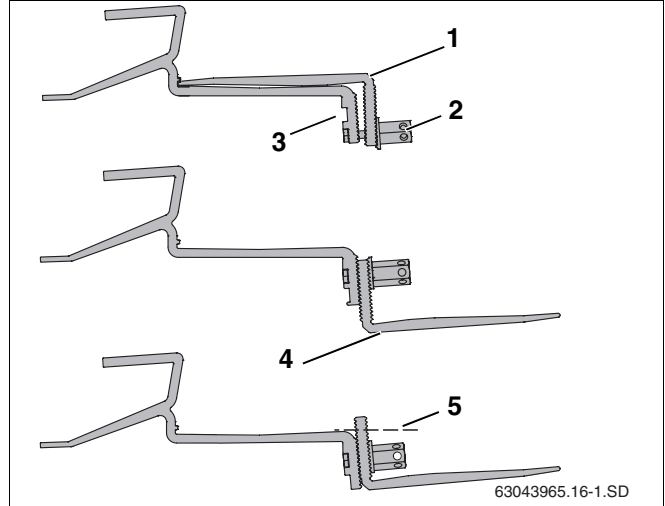

Fig. 14 Fastening roof hooks to joists
With some roof coverings it may be necessary to pack the lower part of the roof hook (Fig. 14, **Item 4**) with boards so that the upper part of the roof hook lies on top of the tile.
- ▶ Loosen the long hexagon nut (Fig. 14, **Item 2**).
- ▶ Insert bolt into upper hole (Fig. 14, **Item 3**).
- ▶ Loosely fasten lower part of roof hook (Fig. 14, **Item 1**). Do not tighten the connection yet.